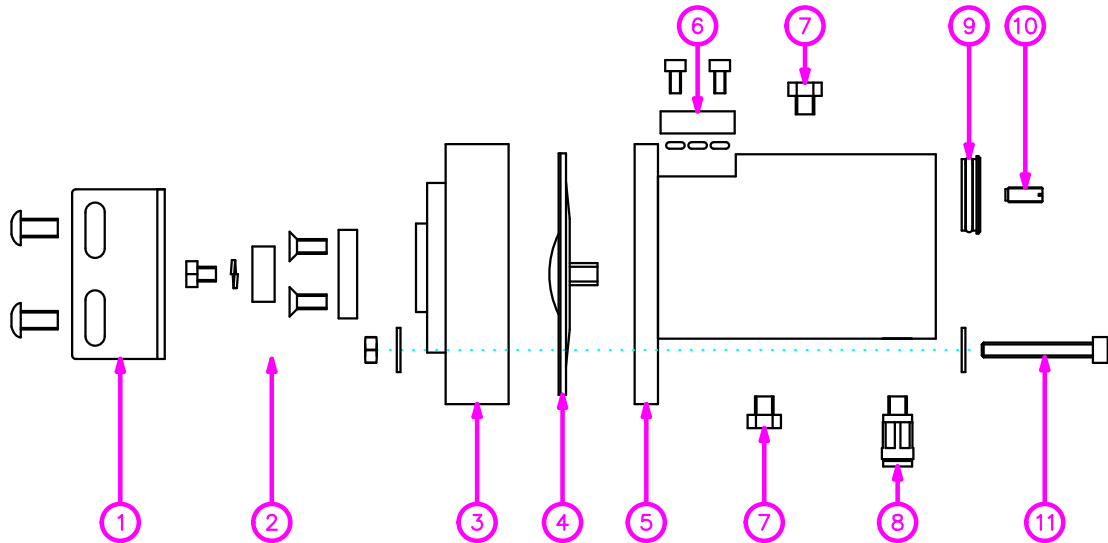

Fig.MA-01
2. Equally tighten the tie-rods Fig.MA-01 (11) to the torque detailed in the table below.